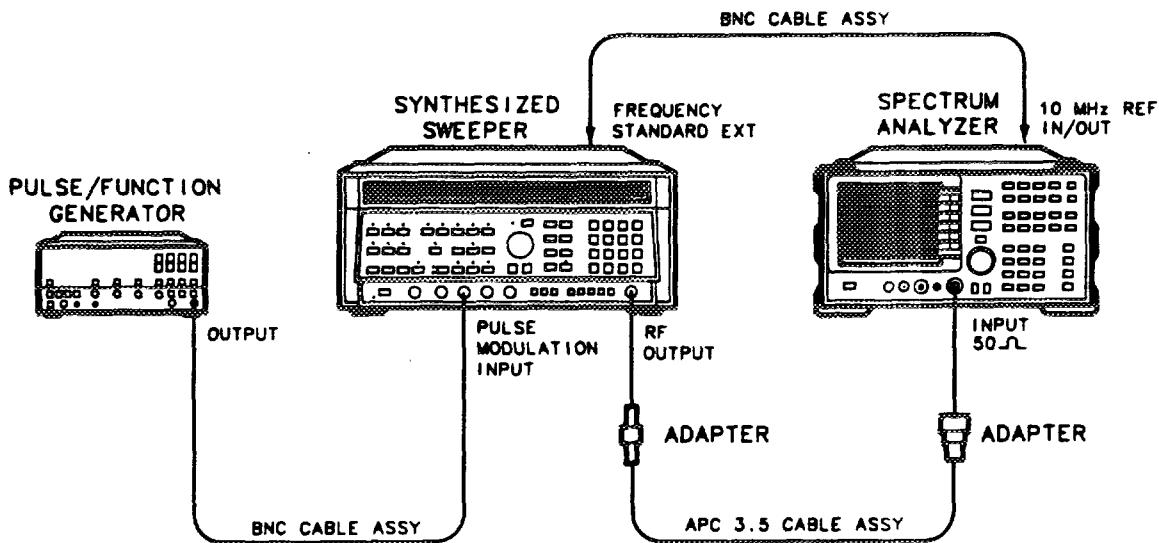

Figure 3-14. Pulse Digitization Uncertainty Test Setup
1. Connect the equipment as shown in figure 3-14.